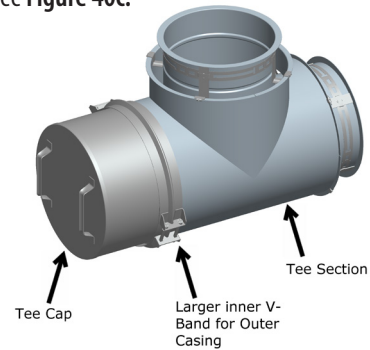

Figure 40c: Step 3-4 for installation of the LDCD TC
Step 4 - Secure with the bigger V-Band (BSI) by tightening the retaining screw. See **Figure 40c**.